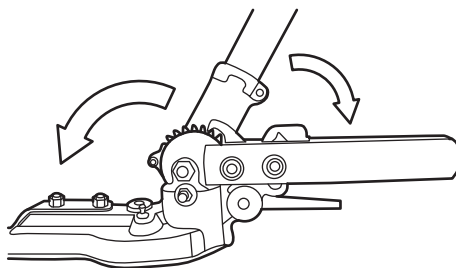

Fig. 20c
c). Move the hedge trimmer shaft (C6) with the other hand until the desired angle is adjusted. (See Fig. 20c)